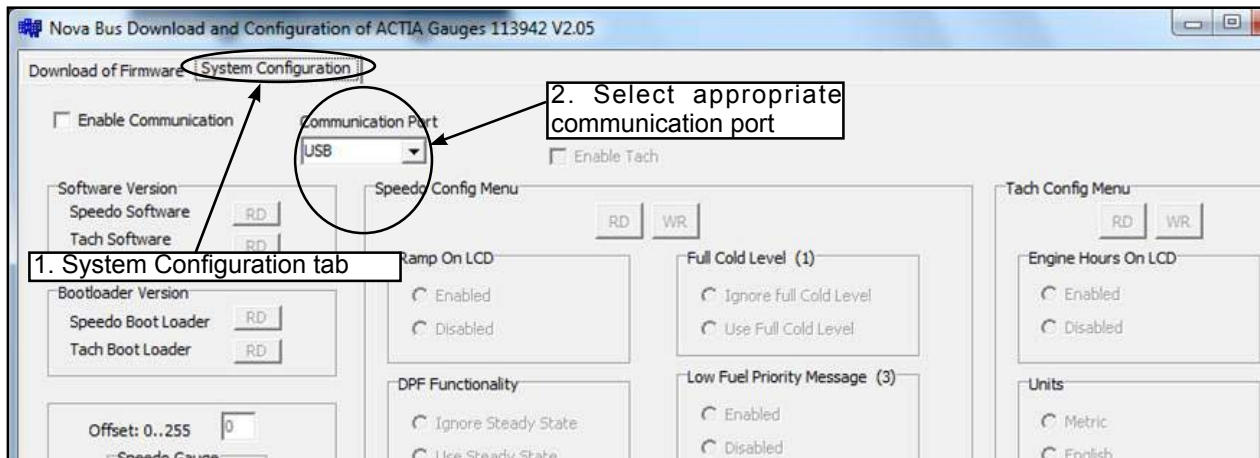

Figure 6 - Select the Appropriate Communication Port
3.1.1 In the System Configuration tab, select the appropriate communication port from the drop-down list (see Figure 6).